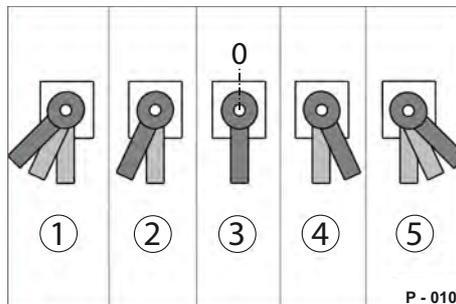

Fig. 34 Valve lever positions
- ▶ Turn the valve lever (Fig. 34/5) anti-clockwise two levels.
- ▶ When the height has been achieved, turn the valve lever back one stage, into the "Stop" position (Fig. 34/4).
- ▶ Turn the valve lever clockwise (Fig. 34/1).
- ▶ When the height has been achieved, turn the valve lever back one stage, into the "Stop" position (Fig. 34/2).